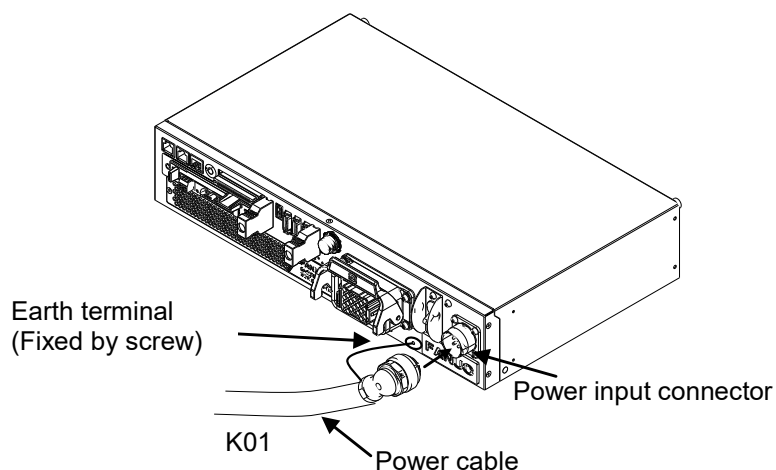

Fig.2.4.2 (a) Connecting the input power cable
- (1) Fig.2.4.2 (a) shows how to connect the input power cable.
- (2) The connector of input power cable should be connected to the PWR connector and earth wire (PE) should be connected to the earth terminal as following Fig.2.4.2 (a).